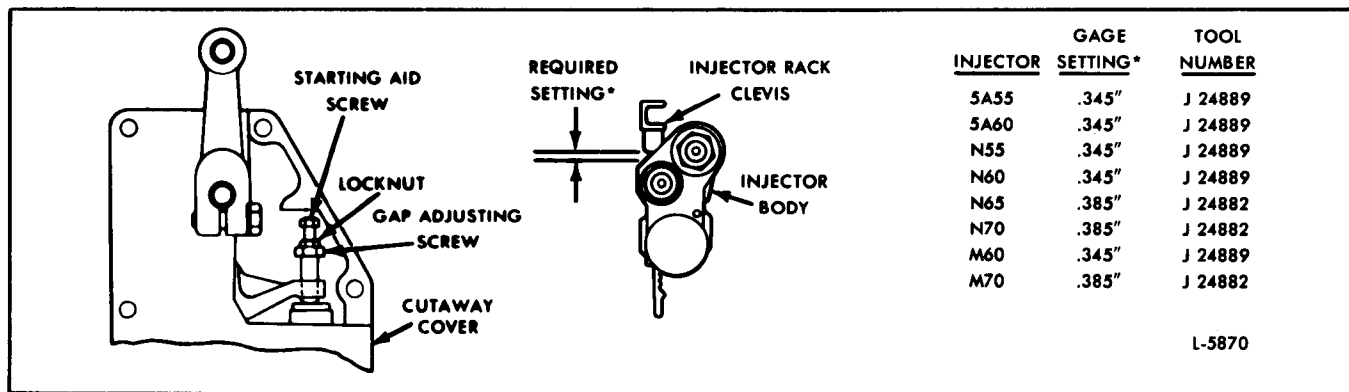

Fig. 6 - Starting Aid Screw Adjustment
- a. Install a cutaway governor cover assembly, on the governor housing (Fig. 6).
- c. Hold the gap adjusting screw to keep it from turning and adjust the starting aid screw to obtain the required setting between the shoulder on the injector rack clevis and the counter bore in the injector body (Fig. 6). Move the gage back and forth along the injector rack until a clearance of $1/64$ " (.016) is noted. The setting is measured at the No. 3R injector rack clevis. Tighten the locknut on the starting aid screw sufficiently to prevent oil leakage as well as to hold the adjusting screw setting.